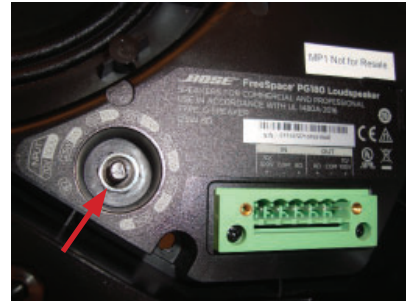

Figure 29
7.6 Remove the one half inch nut to remove the switch from the baffle as indicated by the red arrow, shown in figure 29.